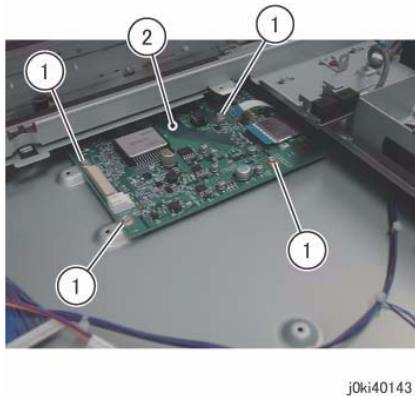

Figure 5 Remove the IIT PWB
11. Remove the IIT PWB. (Figure 5)